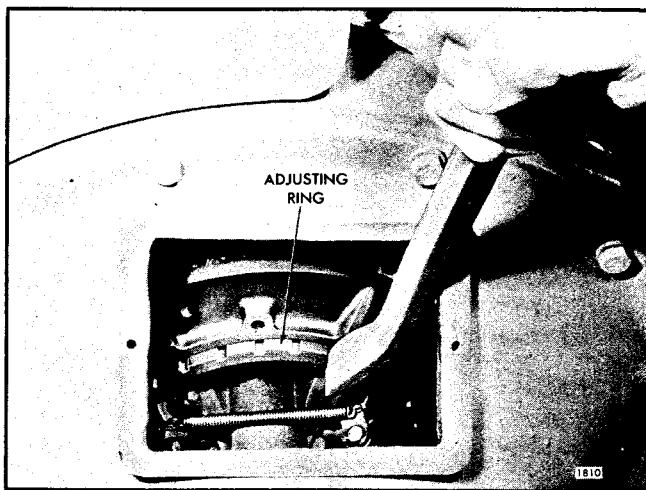
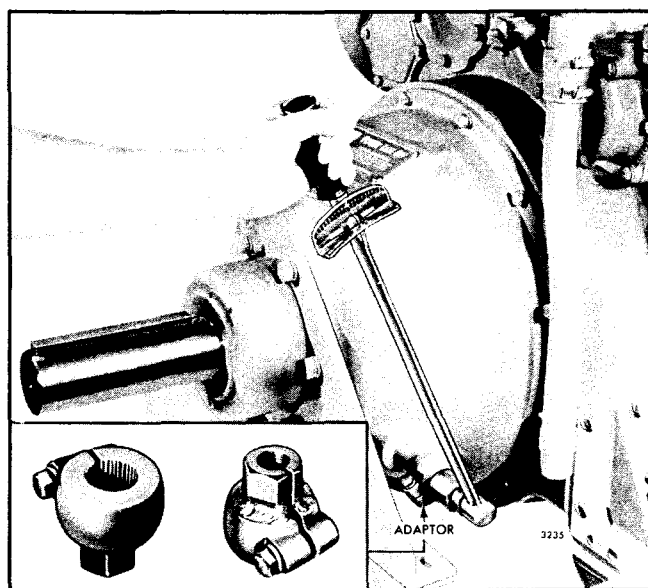

Fig. 13 - Power Take-Off Showing Typical 8 and 11-1/2 Inch Diameter Clutch Adjustment Ring
Fig. 16 - Checking Power Take-Off Clutch Adjustment with Torque Wrench and Adaptor
4. On the 8" and 11-1/2" diameter clutches, remove the clutch adjusting ring spring lock screw and lock from the inner clutch pressure plate and adjusting ring. Then, while holding the clutch drive shaft to prevent the clutch from turning, turn the clutch adjusting ring counterclockwise as shown in Fig. 13 and tighten the clutch until the desired pressure on the outer end of the hand lever, or at the clutch release shaft (Fig. 16), is obtained as shown in Table 1.
and tighten the clutch until the desired pressure on the outer end of the hand lever, or at the clutch release shaft (Fig. 16), is obtained as shown in Table 1.
A suitable spring scale may be used to check the pounds pressure required to engage the clutch. However, a more accurate method of checking the clutch adjustment is with a torque wrench as shown in Fig. 16.
To fabricate an adaptor, saw the serrated end off of a clutch hand lever and weld a 1-1/8" nut (across the hex) on it as shown in Fig. 16. Then saw a slot through the nut.